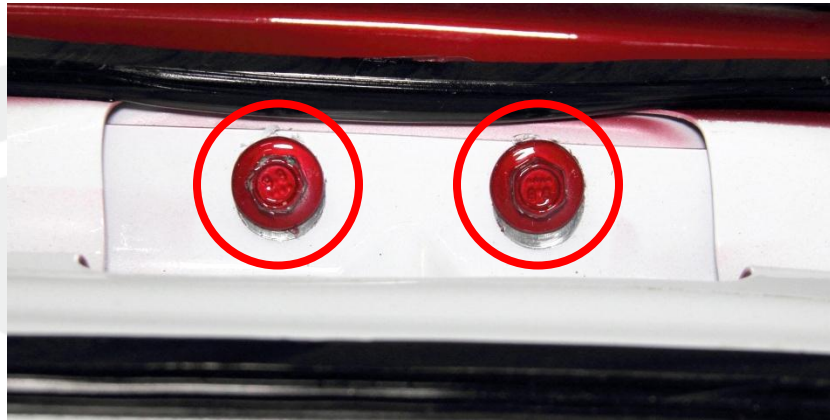

Figure 12 (RH side shown)
6. Remove the 2 bolts at the RH top of the liftgate (torque 10 Nm) (Figure 12).